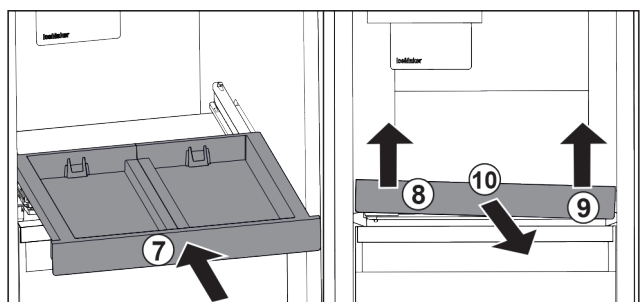

Fig. 141
- ▶ Slide in the pull-out board. Fig. 141 (7)
- ▶ Lift the pull-out board on the front left. Fig. 141 (8)
- ▶ Lift the pull-out board on the front right. *Fig. 141 (9)*
- ▶ Take out the pull-out board to the front. *Fig. 141 (10)*